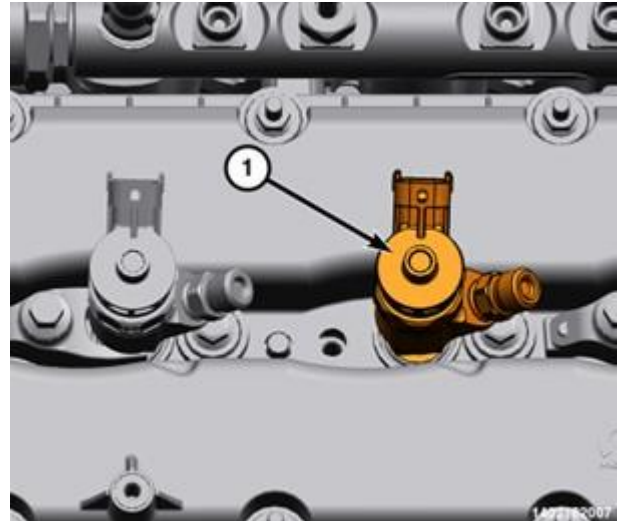

Figure 148 – Fuel Injector
- 94. Install the fuel injector (1) in the cylinder head (Figure 148).